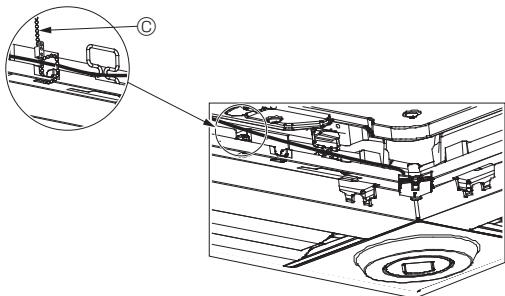
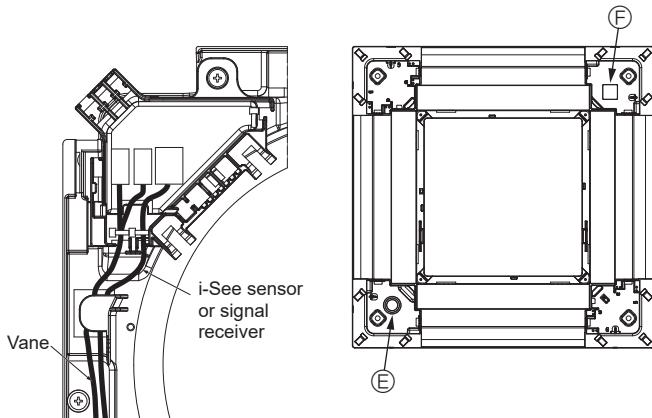

Fig. 6-13
Fig. 6-14
- Secure the i-See sensor and signal receiver wires to the panel with the fastener as shown in the diagram so that there is no slack in the wires, and then cut off the excess end of the fastener. (Fig. 6-13)
- If the position of the i-See sensor was changed from the “○” position (E) to the “□” position (F), change the switch settings. (Refer to page 11.)
- Route the i-See sensor and signal receiver wires as shown in Fig. 6-14.